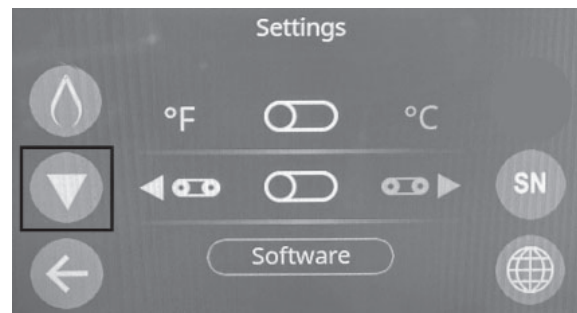

Figure 31
8. Model Selection – From the settings main menu, Press the “▼” as highlighted in (Figure 31) below.